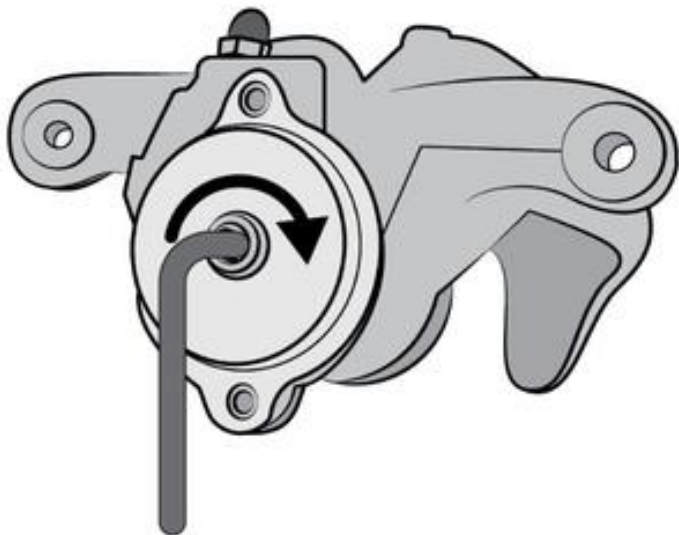

Figure 1. Turning back brake piston spindle in clockwise direction (example)
- Using a suitable tool (e.g. insert tool T10621 for 17" rear brakes or hexagon socket bit XZN M8 for 16" rear brakes), turn back brake piston spindle in clockwise direction (refer to Figure 1, black arrow) until brake is accessible.